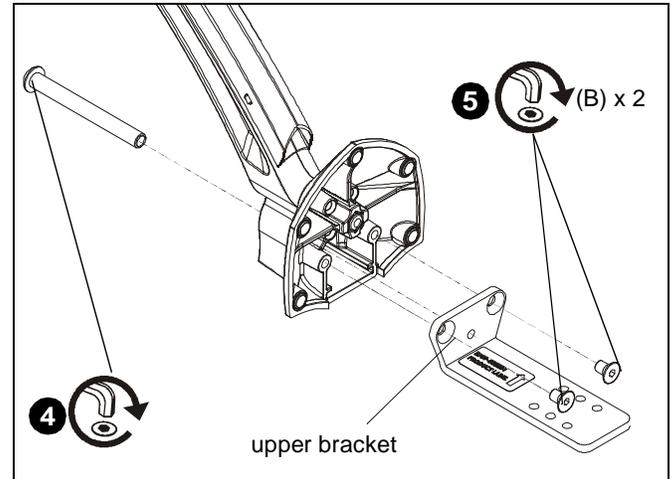

Figure 3
4. Use button head cap screw loosened in Step 1 to attach upper bracket of KRA219 to Kontour mount. (See Figure 3)
5. Use two 5/16-18 x 1/2" flat head cap screws (B) to secure upper bracket for KRA219 clamp bracket to Kontour mount. (See Figure 3)